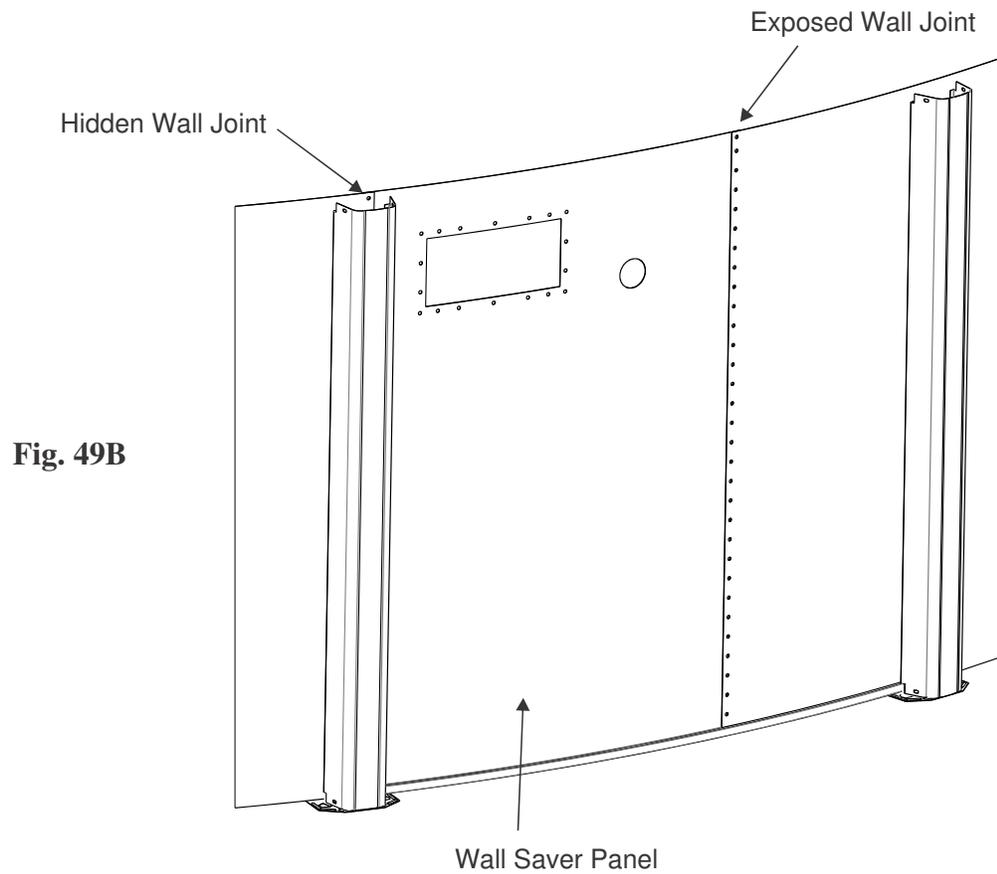

Fig. 49B
Many pool walls come with a Wall Saver Panel. The Wall Saver Panel is a separate piece of the pool wall that has the skimmer and return openings in it. The Wall Saver Panel is joined to the pool wall at each end. Your pool will have 2 wall joints. On many size pools and many Wall Saver Panels this means that one (1) of the joints will be exposed and clearly visible on the outside of the pool instead of being behind a pool upright. This is normal. See Fig.49B for how the wall saver panel is installed in the pool wall.